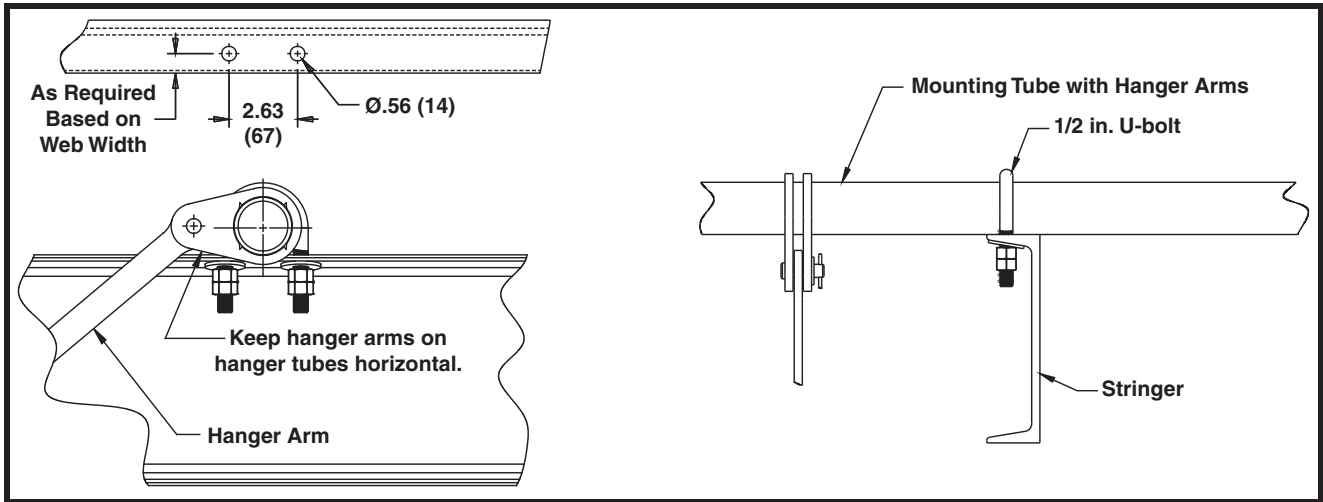

Figure 4. Installing Mounting Tubes
- a. If the stringers can accommodate the hanger bars in the proper position, hanger bars can be mounted directly to the stringers. See Figure 4.
6. Align pins (G) so torsion clamp arms are on an equal angle.
7. Tighten all nuts on u-bolts that attach hanger bars to adapter plates or stringers. Make sure hanger arms on hanger tubes remain horizontal as shown in Figures 4.